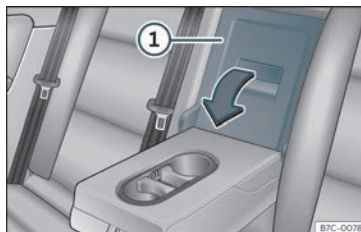

Fig. 114 In the rear seat backrest: opening the trapdoor.
- Pull the release lever in the direction of the arrow and push the tailboard cover »» **Fig. 114** ① down and forwards.